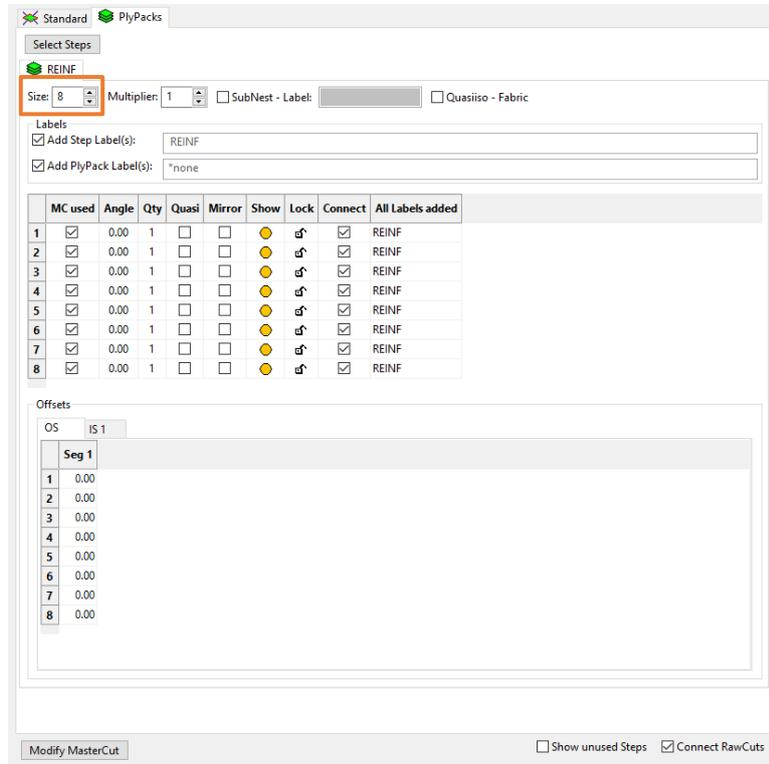

Figure 193
- Now a new TAB is generated named after the selected step (in this case REINF). To get a better impression of what we can do with the PlyPack tab let's assume we want to add 8 tapered ring cuts instead of three. Therefore set the Size from one to 8 (Figure 193).